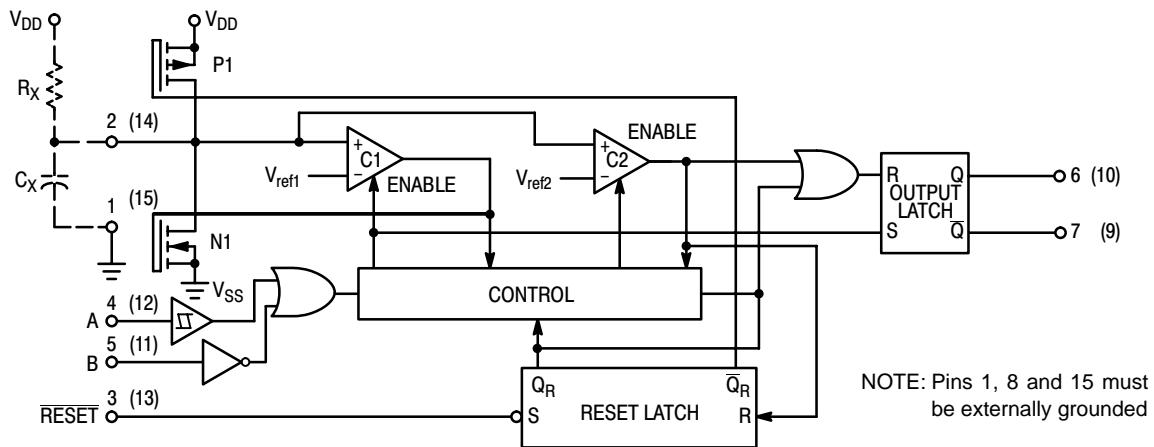

Figure 1. Logic Diagram
The block diagram of the MC14538B is shown in Figure 1, with circuit operation following.
As shown in Figure 1 and 10, before an input trigger occurs, the monostable is in the quiescent state with the Q output low, and the timing capacitor C_X completely charged to V_{DD} . When the trigger input A goes from V_{SS} to V_{DD} (while inputs B and Reset are held to V_{DD}) a valid trigger is recognized, which turns on comparator C1 and N-channel transistor N1 ①. At the same time the output latch is set. With transistor N1 on, the capacitor C_X rapidly discharges toward V_{SS} until V_{ref1} is reached. At this point the output of comparator C1 changes state and transistor N1 turns off. Comparator C1 then turns off while at the same time comparator C2 turns on. With transistor N1 off, the capacitor C_X begins to charge through the timing resistor, R_X , toward V_{DD} . When the voltage across C_X equals V_{ref2} , comparator C2 changes state, causing the output latch to reset (Q goes low) while at the same time disabling comparator C2 ②. This ends at the timing cycle with the monostable in the quiescent state, waiting for the next trigger.